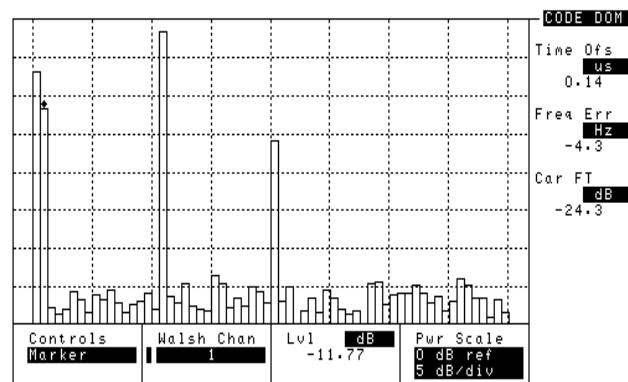

Figure 18. Code Domain Power Measurement on the E6380A Test Set
2. Press the **Code Dom** key on the front panel of the E6380A; if using the 8921A, select **CODE DOM** from the **To Screen** menu. The **CODE DOM** screen appears (see Figure 18).
7. Under **Walsh Chan**, enter the Walsh code channel number at which you want to measure the power (see Figure 18).
In the example shown in Figure 18, the marker is placed on Walsh code 1, the paging channel. The power level in this paging channel is 11.77 dB below the total power in the CDMA signal.